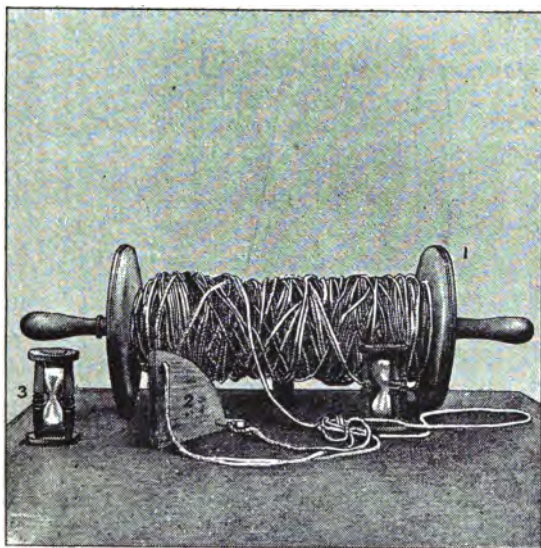

FIG. 19.—LOG-LINE, ETC.
The gear of this sounding machine is handy for use with the ordinary Log-ship \* (Fig. 19). A log-ship (2) replaces the lead, and the apparatus becomes an ordinary log-line on the following plan : A line is attached to each corner of a piece of wood shaped like 2, Fig. 19. A plug, which can be withdrawn, is fitted into one of the corners. The bottom is leaded, so that the wood floats upwards, a sand-glass (3) is used which runs to 28 seconds. The problem
When the shrouds are cut to the required length, fit them in pairs. The bight forms the eye which goes over the masthead. Proceed to splice the ends round the dead-eyes, or into the heart of the screws. Each pair of shrouds, as they are finished, should be carefully marked with a canvas tally. The shrouds are sometimes served all over, but this is absolutely necessary only in the eye, and over the splices. Good three yarn, spun yarn, or amber line should be used. A coating of tar will prevent rust. Plenty of room must be allowed in the eyes that go over the masthead. The parts should be well seized together with a throat seizing (Fig. 19), which ought to come well below the bolsters. If a shroud is found to be too long, or too short, when the rigging is finished, corrections may be made by putting in, or taking out, a turn.